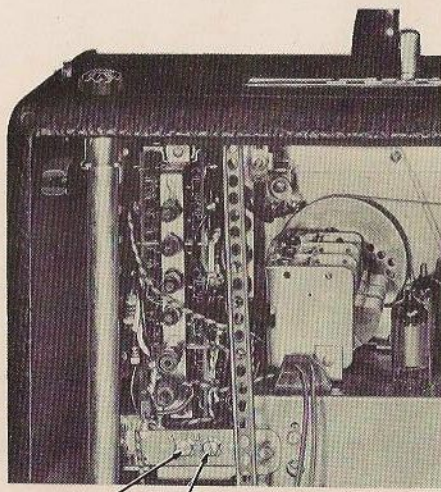

Figure 17—Antenna and Ground Terminals.
- F. Antenna and ground terminals have been provided in the left rear of the receiver chassis, to which an external antenna and ground may be connected. It is only necessary to use these external antenna and ground connections when the receiver is to be operated in areas with extremely low signal strengths where it is difficult to receive a desired signal on the standard Wavemagnet. (See Figure 17.)
- A. An antenna and ground terminal have been provided in the left rear of the receiver chassis, (See Figure 17), to which an external antenna and ground may be connected. It is only necessary to use